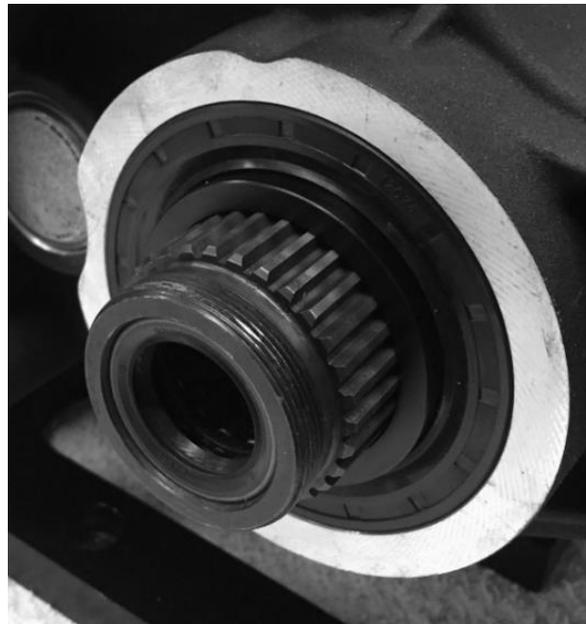

FIGURE 27 | MAIN DRIVE GEAR SEAL INSTALLED FLUSH WITH CASE
9. Install the main drive gear seal until it is flush with the transmission case all the way around the bearing boss; see figure 27.